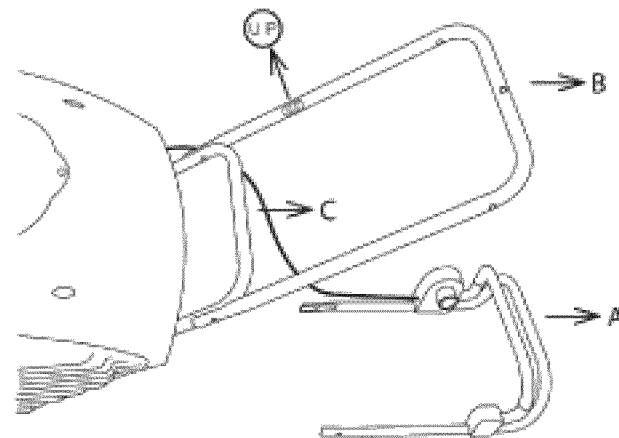

Figure 2
1. Loosen and remove the four sets of joint fixing T-bolts, washers, and knobs to separate the upper frame from the middle frame (Fig. 2).